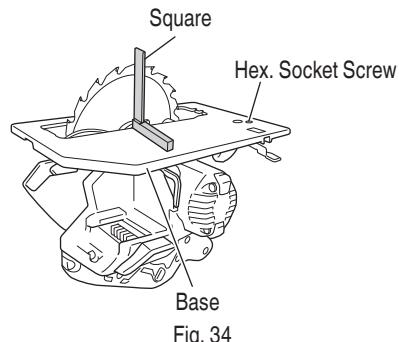

Fig. 34
#### 6. Adjusting the base and saw blade to maintain perpendicularity (Fig. 34)
- (1) Turn the base face up (Fig. 34) and loosen the lever (A).
- (2) Apply a square to the base and the saw blade and, turning the Hex. socket screw with a 3 mm Hex. bar wrench, shift the position of the base to produce the desired right angle.